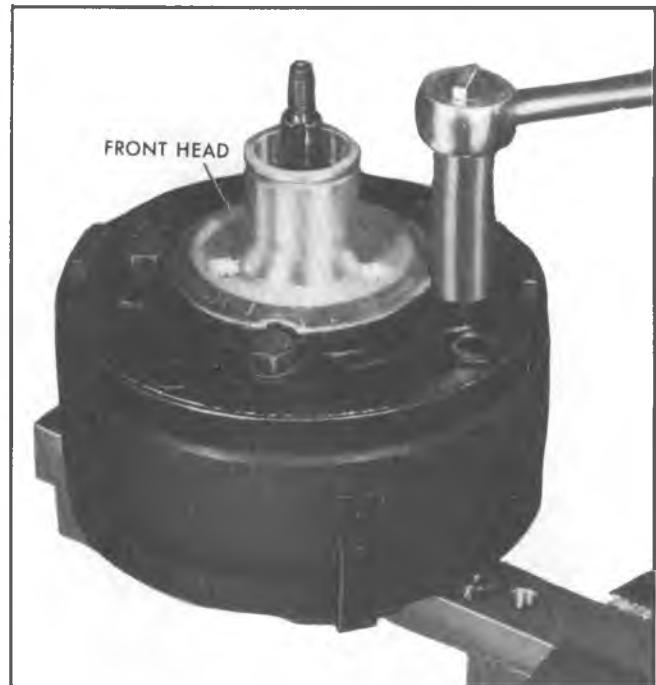

Fig. 85--Remove Front Head Assembly
3. Remove the four front head mounting screws (Fig. 85) and remove front head assembly and discard seal ring. At this point front head and bearing assembly, front head